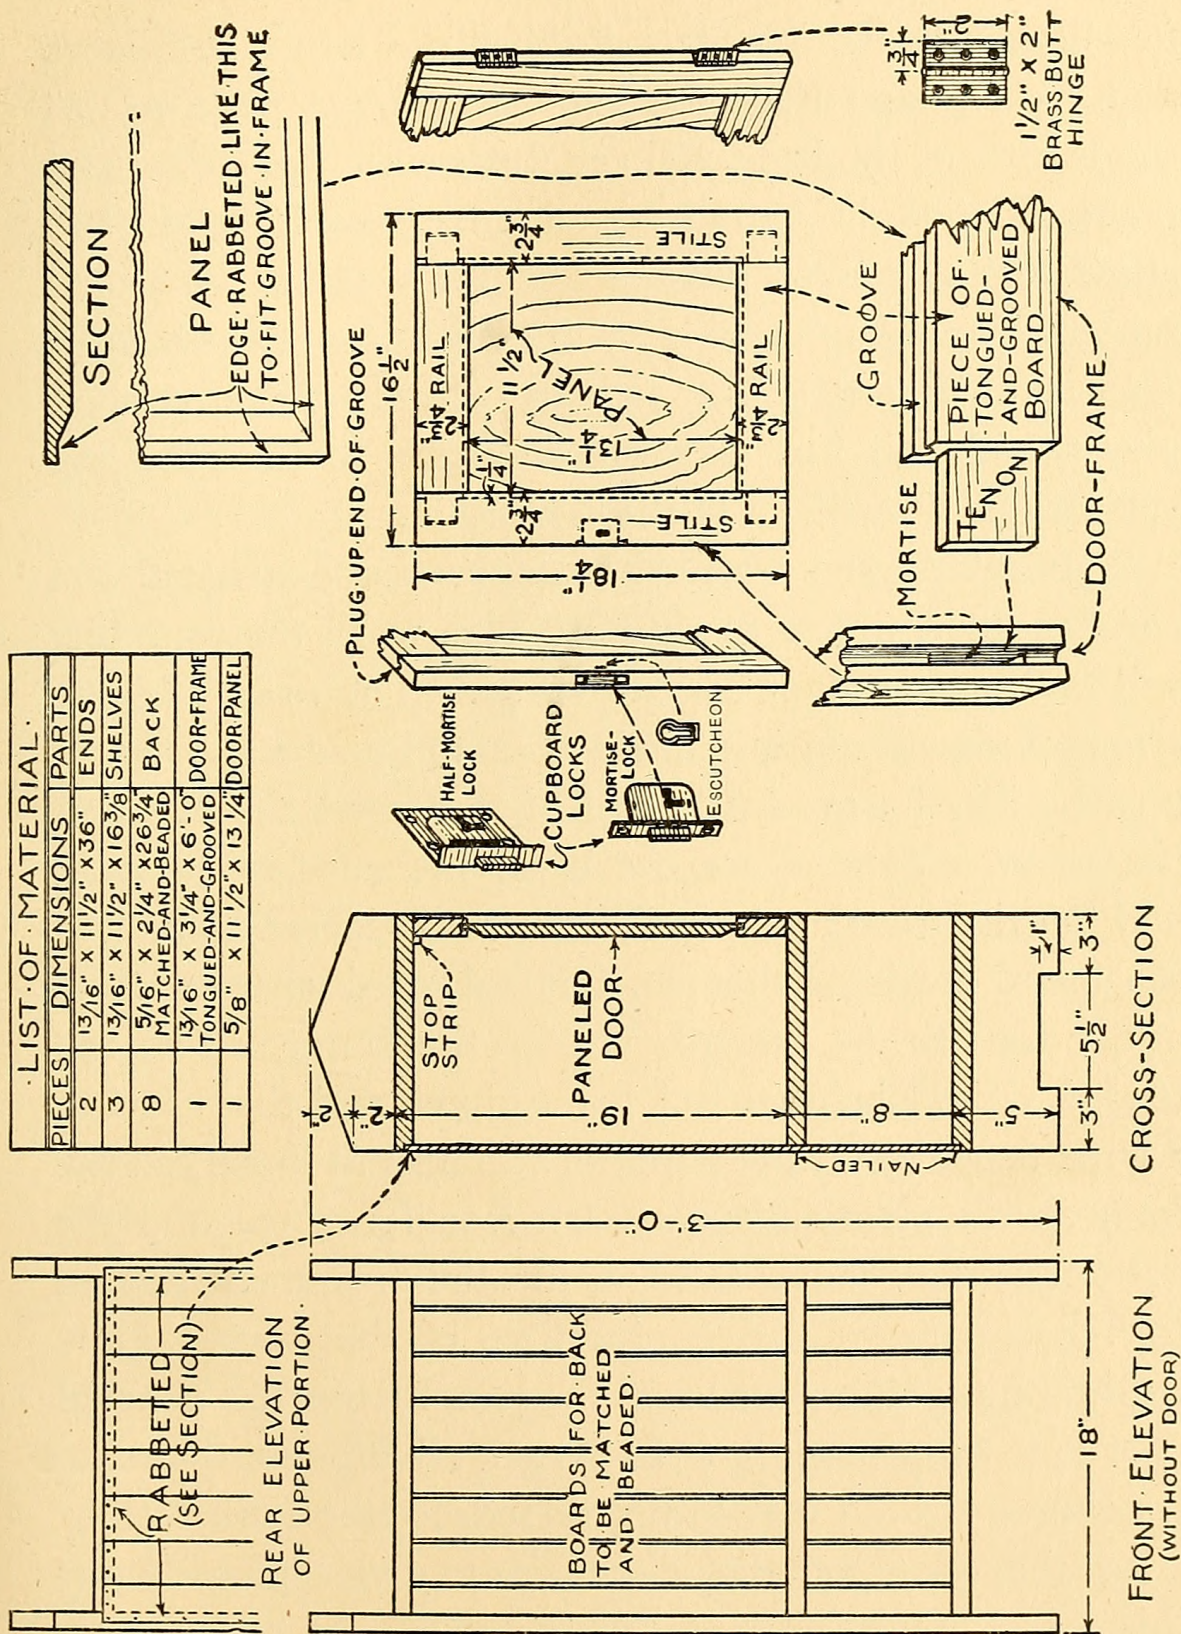

FIG. 137. — Details of Music-cabinet shown in Fig. 133.
**The Music-cabinet** shown in Fig. 133 will make an attractive piece of furniture for a music room. First, prepare the end pieces and the shelves (Fig. 137), then after these pieces have been fastened together, put on the back boards and make and hang the paneled door. The best scheme for making a tight-fitting back is to use matched-and-beaded boards (known as M-&-B ceiling). A board always shrinks crosswise of the grain (but not lengthwise), and also expands and contracts to a certain extent with the changes in the atmosphere, and this movement must be provided for in joining pieces together, or there will be trouble. Take the music-cabinet, for example. Here the back will shrink and swell in the width of the cabinet, but the shelves will not, as their grain runs the other way, and under these conditions, if the back boards are wide, and are fitted snugly and nailed to the shelves, they are bound to split in shrinking or *buckle* (bulge out) in swelling, for the shelves will not move with them; but if the boards are narrow, the movement in each piece will of course be very slight, and the small amount that there is may be taken care of in the joints, where, if the boards are matched and beaded,